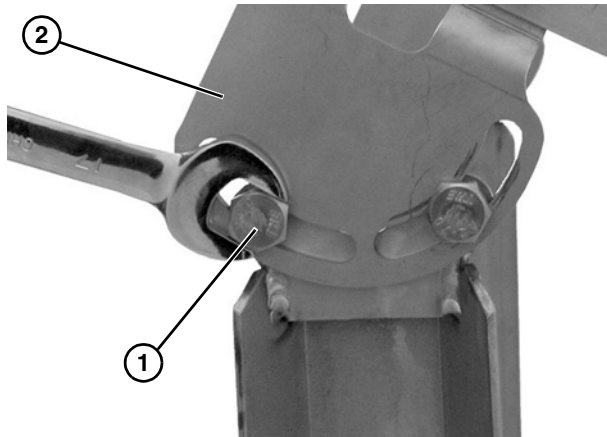

Figure 3
2. For slotted brackets, loosen the two bracket bolts (Figure 3, item 1) and adjust the bracket (Figure 3, item 2) so that the top is at approximately the same angle as the conveyor. Do not tighten the bolts.